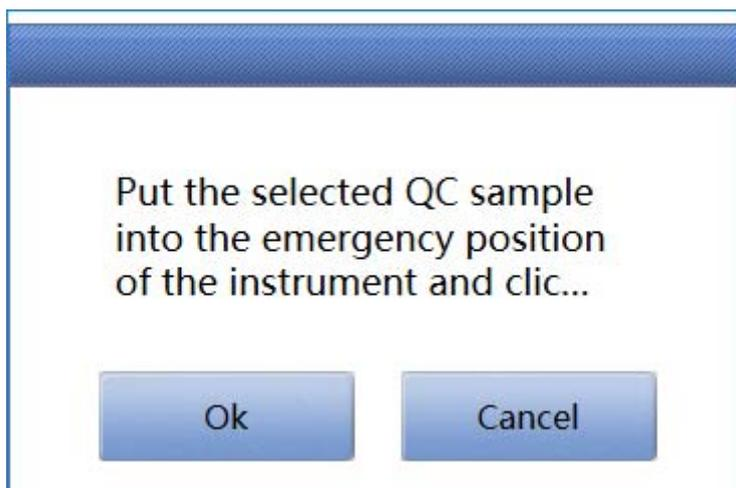

Figure 7-3 Quality control test inquiry
1. Manual QC: Click the Manual QC button on the quality control interface, the manual quality control dialog box will pop up, as shown in Figure 7-3. Click "OK" and test the control materials on corresponding instrument by QC button. (You can follow the prompts in the dialog box).